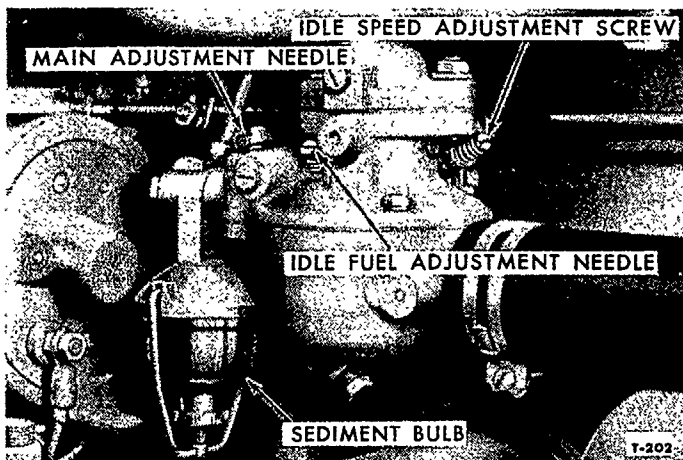

Figure 6—Carburetor Adjustments
Three adjustments are provided on the carburetor, as shown in Figure 6. They are the main adjustment needle, the idle speed adjustment screw, and the idle fuel adjustment needle. Actually, there are three factors that control the conversion of the fuel air mixture into engine power. These factors are engine compression, ignition and correct carburetor adjustment. Correct carburetor adjustment cannot be obtained, however, unless engine compression and ignition meet specifications.
- a. For the initial setting, before the engine is started, turn the idle fuel adjustment needle, Figure 6, in (clockwise) until it is seated lightly, then back it off approximately one turn. Start the engine and turn the idle fuel adjustment needle in (clockwise) until the
- b. With the hand throttle in the closed position, turn the idle speed adjustment screw, Figure 6, until the engine idle speed is 450 to 475 rpm on the Proof-Meter. On new engines it may be necessary to set the idle slightly higher to prevent stalling.
- c. The power fuel adjustment or main adjustment needle, Figure 6, initial setting, is 1-1/4 turns open, (counterclockwise).
The fuel tank is located directly under the hood, above the engine. The fuel outlet to the sediment bowl and carburetor is located in the bottom of the tank, at the center. The fuel shut-off valve is also incorporated in the fuel tank outlet fitting. The fuel line runs from the outlet fitting to the sediment bowl which is mounted in the front of the carburetor, see Figure 6.